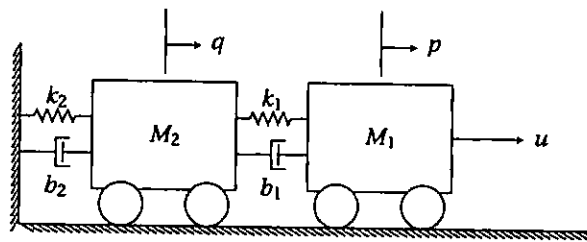

Figure 2: System of two rolling carts for Q4a.
- Q4. (a) Figure 2 shows a two-rolling-cart system.  $M_1$  and  $M_2$  are the masses of the first and the second cart, respectively.  $k_1$  and  $k_2$  are the spring constants, and  $b_1$  and  $b_2$  are the damping coefficients. Use the assignment  $x_1 = p$ ,  $x_2 = q$ ,  $x_3 = \dot{p}$ , and  $x_4 = \dot{q}$ , and obtain the state-space model of this system. [6 marks]